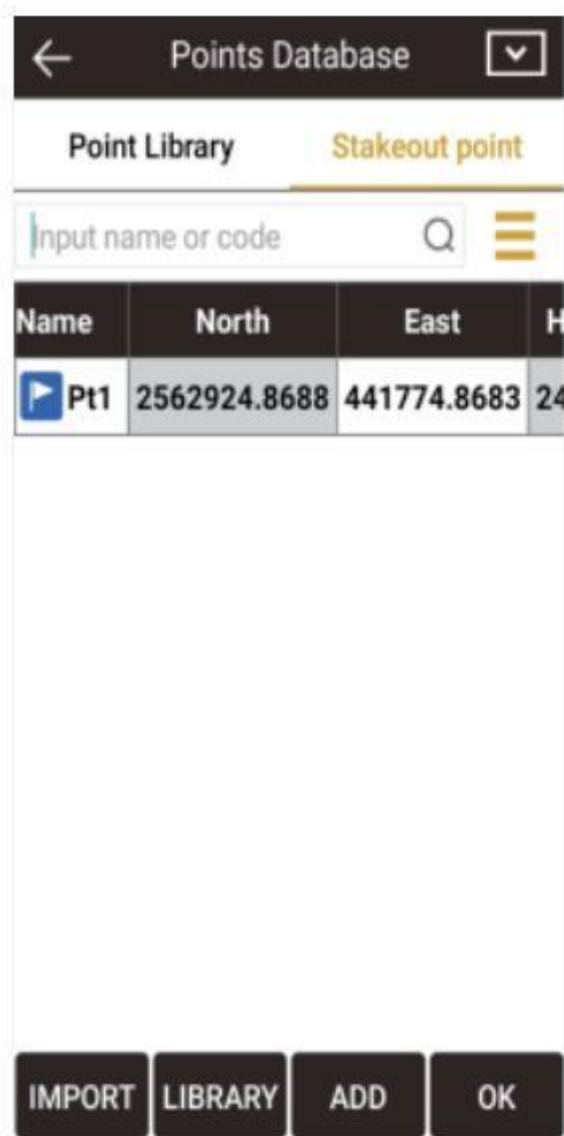
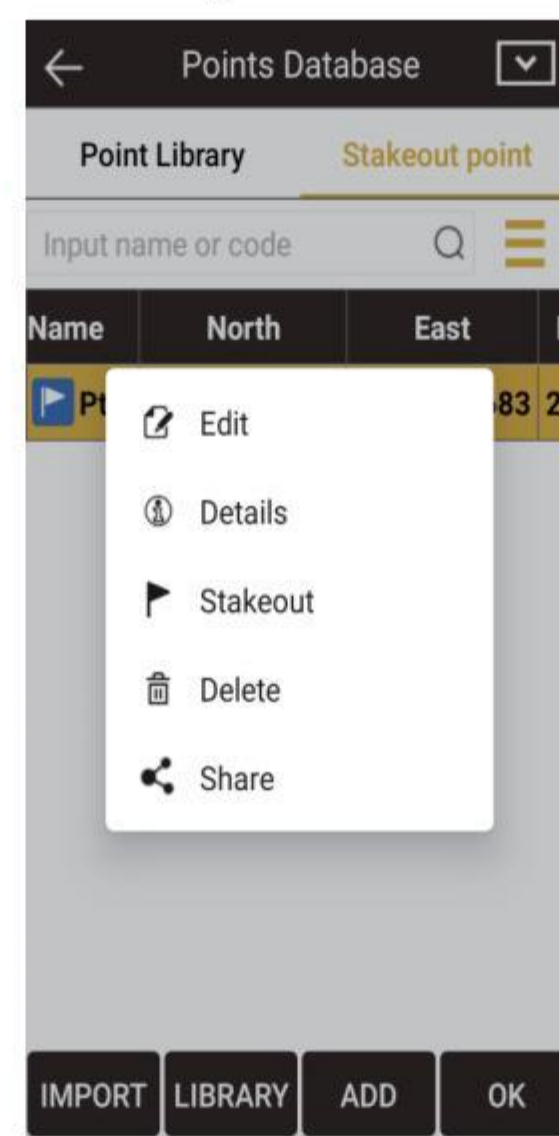
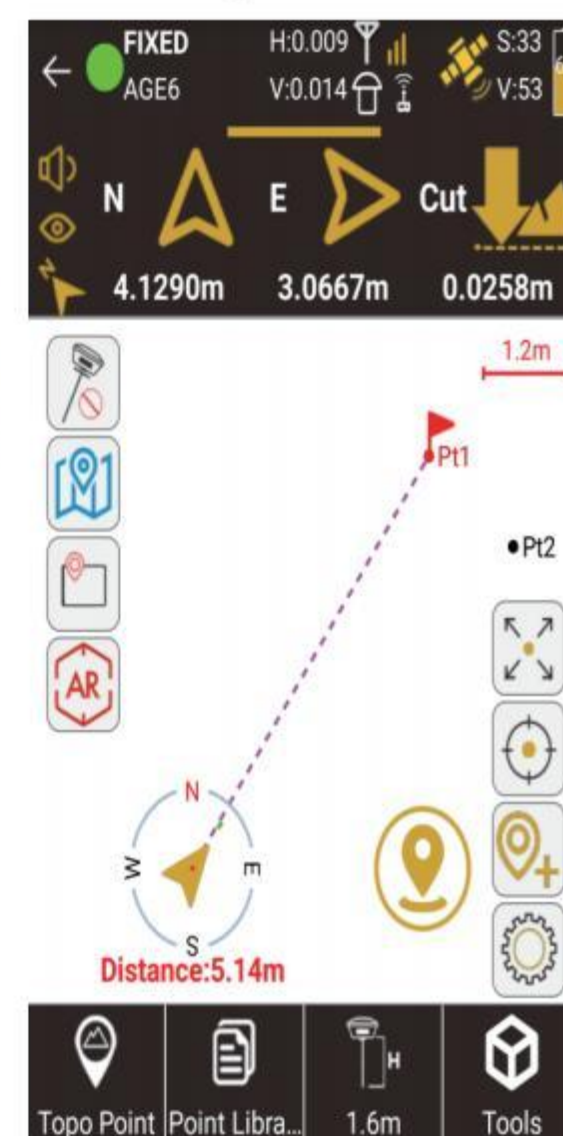

Figure 3.11-4
Figure 3.11-5
Figure 3.11-6
3.Click [Survey]-> [Point Stakeout] to enter the point stakeout library interface, as shown in Figure 3.11-4. The points to be staked will display the unstaked points and the staked points. Click the staked point to edit, view the details, stake out and delete the staked point, as shown in Figure 3.11-5. After selecting the point to stake out, enter the point stakeout interface, as shown in Figure 3.11-6. Click the tilt survey icon in the upper left corner  to turn on the tilt survey function, as shown in Figure 3.11-7. When turned on, the icon is .